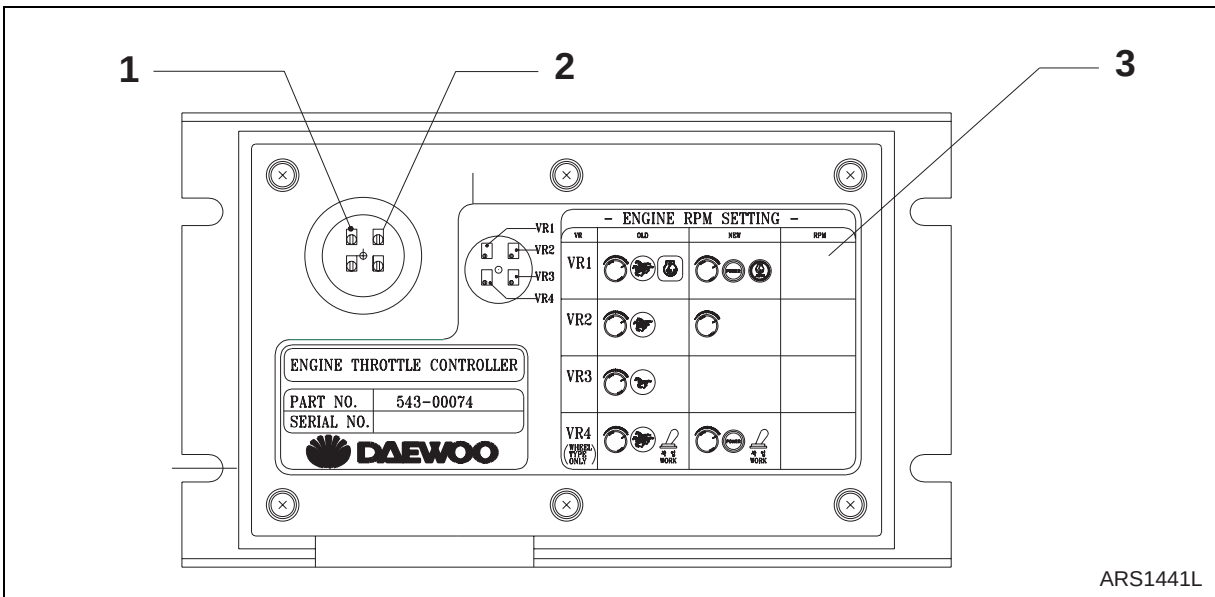

Figure 64
- C. Adjust engine speed by slowly turning variable resistor screw "VR1." (See Figure 64.)
- C. Adjust engine speed by slowly turning variable resistor screw "VR2." (See Figure 64.)
| Automatic Deceleration (Auto Idle) | VR1               |  | Refer to throttle controller name plate (3, Figure 64). |
| Standard Mode                      | VR2               |   | Refer to throttle controller name plate (3, Figure 64). |